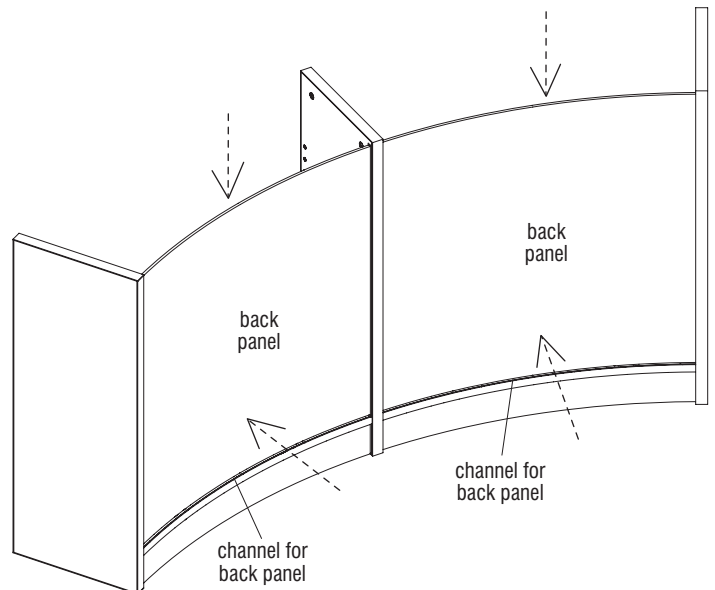

Figure 5
- Once the back panel has been lowered on top of the base shelf, gently push on the back of the back panel to make it bend to fit into the channel on the base shelf. Push the top of the back panel down firmly to ensure the back panel is seated in the channel of the bottom shelf. If the back panel is not fully seated, the top shelf cannot be installed properly (Figure 5).